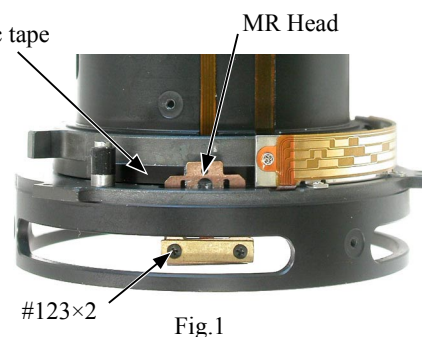

Fig.1
- ④ In the case of smaller amplitude, loosen 2 screws (#123) to move the MR head for adjustments as shown in Fig.1. Magnetic tape